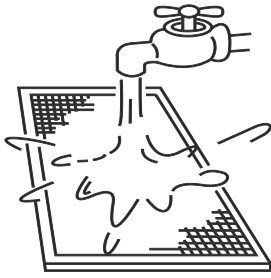

Figure 13.4
- The air intake side should face down when using clean water. (Refer to Figure 13.4)